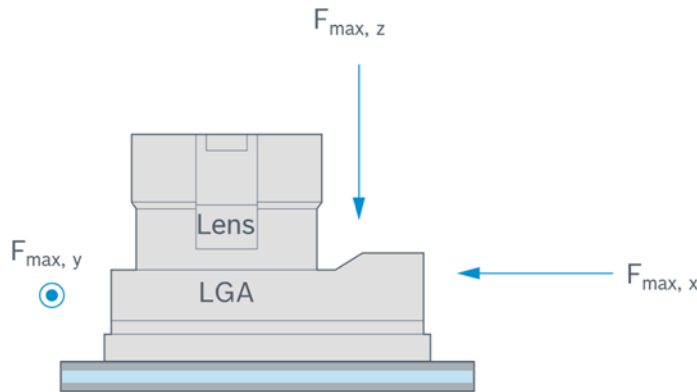

Figure 19: Maximum forces applied to the LGA package
- Maximum forces applied to the LGA package (Figure 19)